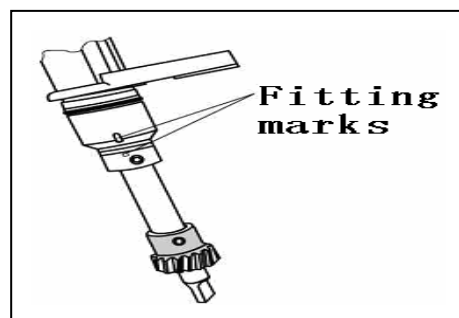

Fig.3-11 The direction of piston and oil pump shaft
- A. Rotate crankshaft to TDC position. Then use a screwdriver to turn the groove in shaft end of oil pump (refer to fig.3-11).